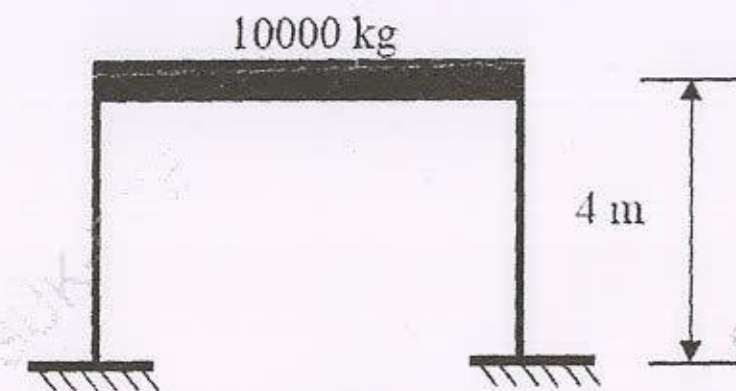

Fig 1.
b) Find the natural frequency and natural period for the building frame shown in the fig. 1. During test the frame is given 40 mm initial lateral displacement and released from the rest to vibrate freely. Find the displacement after 4 seconds and number of cycles when amplitude reduced to 1/20 of maximum. Consider 10% damping. Take $EI_{\text{Column}} = 1.5 \times 10^{12} \text{ N.mm}^2$, $EI_{\text{Beam}} = \infty$. [10]
- b) The bent ABC is subjected to lateral load of 10kN as shown in the fig.1 below. Determine the reactions at support C by strain energy method. Draw SFD and BMD [12]
(FIG.1)